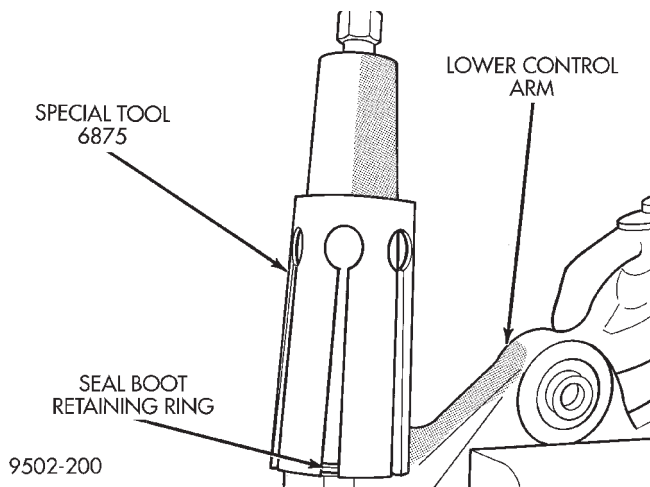

Fig. 111 Retaining Ring Installed In Ball Joint Seal Boot
(7) Continue pushing retaining ring down Installer, Special Tool, 6875, until it is installed in the retaining ring groove of the seal boot (Fig. 111)